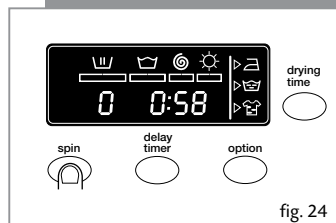

fig. 24
- Press the spin button again to get to the no spin option and the display will show "0" (Figure 24).